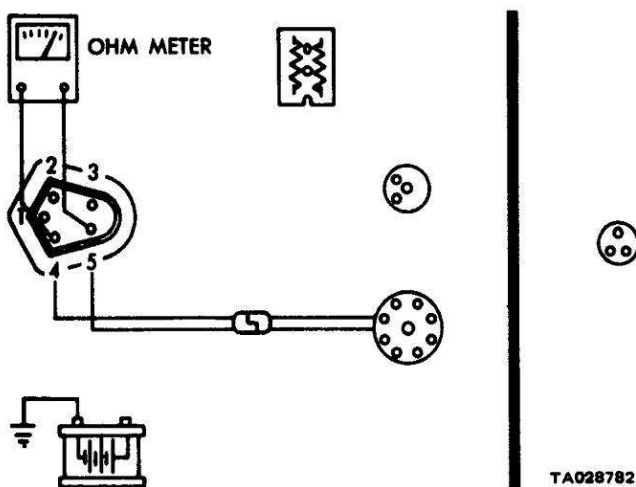

Figure 2-30. Testing Pickup Coil at Wiring-Harness Connector.
(7) Set the multimeter on the lowest ohms scale (X1 or RX1) and zero it. Connect the leads to wiring-harness connector terminals number four and five (figure 2-30).